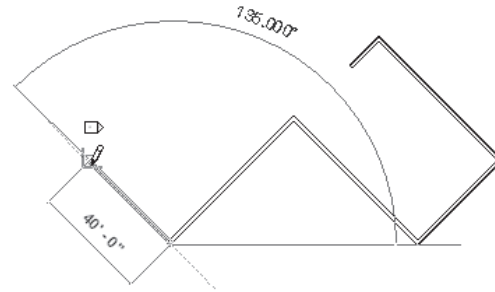

Figure 3-44 Sketching the sixth inclined wall segment
10. Next, create the connected wall segment of 40'0" length, as shown in Figure 3-44.